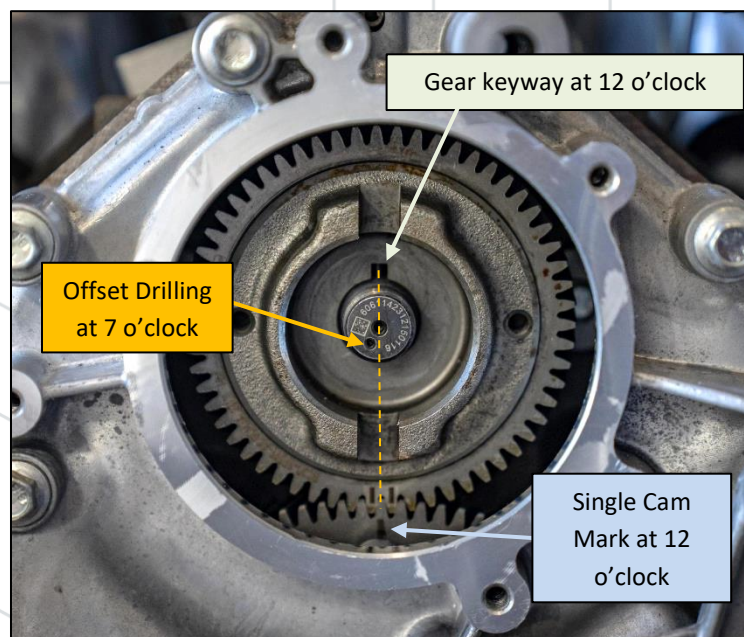

Figure 27: DCR Fuel Pump Timing
- Install the gear in the same orientation that it was removed with the double marks on the pump gear straddling the single mark on the engine's cam gear. Gear keyway at 12 o'clock as shown in Figure 27.